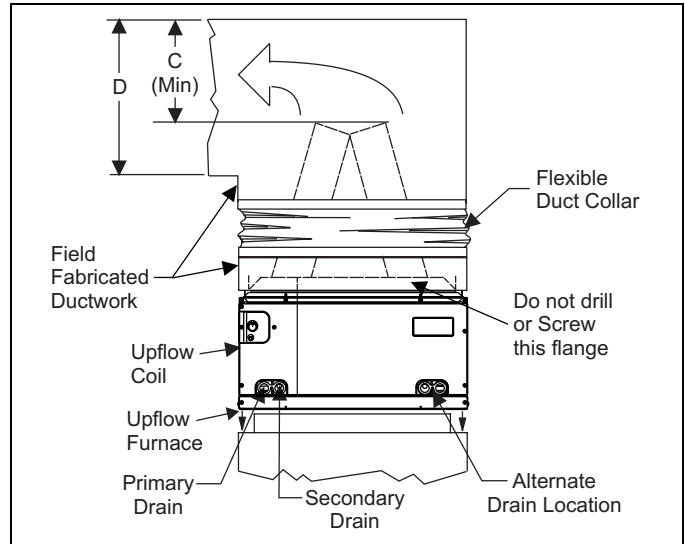

FIGURE 6: PC Series Upflow Coil Installation
1. Position the coil casing over the furnace opening as shown in Figure 6, "PC Series Upflow Coil Installation".
Do not drill any holes or drive any screws into the front duct flange on the coil in order to prevent damaging coil tubing. See Figure 6, "PC Series Upflow Coil Installation"
NOTE: Dimension "C" should be at least 2/3 of dimension "D". See Figure 6, "PC Series Upflow Coil Installation"
These coils are supplied ready to be installed in a right hand position or a left hand position. When used in conjunction with a horizontal furnace (blow through) application, the coil should be oriented with the opening of the "A" coil closest to the furnace. See Figure 6.
NOTE: Each coil is shipped with an external tie plate that should be used to secure the coil to the furnace. It should be installed on the back side of the coil using the dimpled pilot holes. See Figure 6.